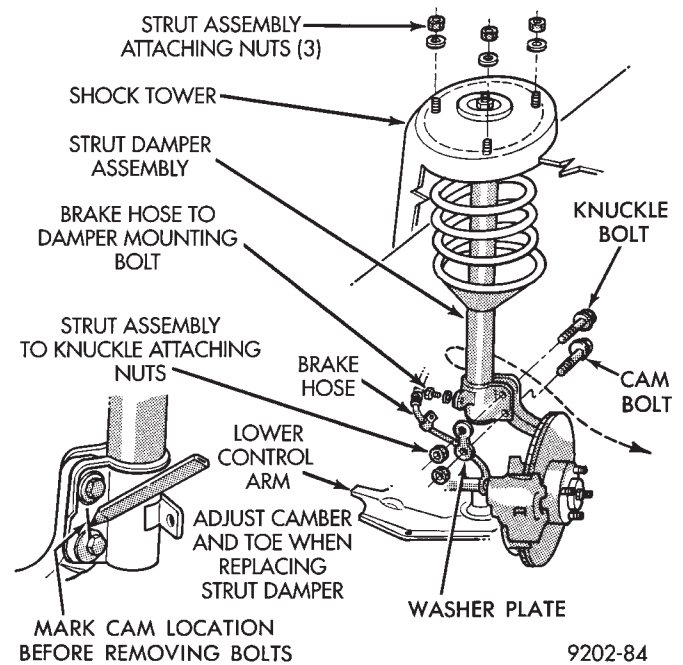
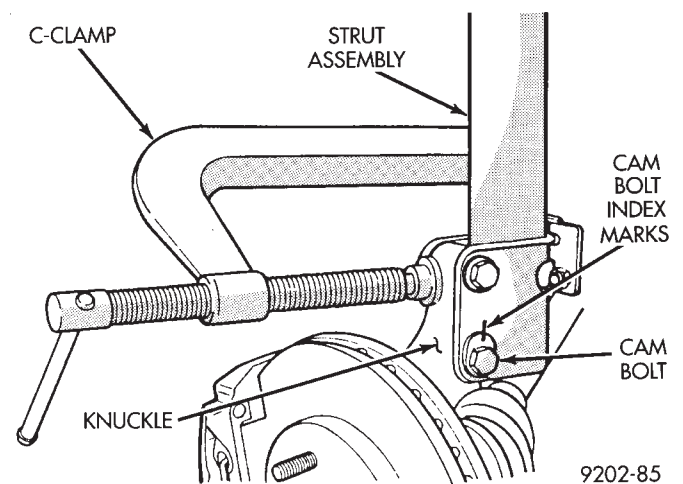

Fig. 1 Strut Damper Removal
Fig. 2 Strut Assembly Installation
- (4) Remove cam bolt, knuckle bolt and brake hose to damper bracket retaining bolt (Fig. 1).
- (5) Remove strut damper upper mount assembly to shock tower mounting nut and washer assemblies (Fig. 1)
- (1) Install strut assembly into shock tower. Install the 3 strut assembly to shock tower attaching nut and washer assemblies. Tighten nuts to 27 N•m (20 ft. lbs.) torque.
- (2) Position neck of steering knuckle into strut assembly. Install cam and knuckle bolts through strut assembly and steering knuckle. Install washer plate and nuts (Fig. 1) do not tighten nuts.
- (3) Attach brake hose retainer to damper, tighten screw to 13 N•m (10 ft. lbs.) torque.
- (4) Index cam bolt to original mark (Fig. 2).
- (5) Place a 4 inch (or larger) C clamp on the strut and knuckle (Fig. 2). Tighten the clamp just enough to eliminate any looseness between the knuckle and the strut, then check alignment of the index marks (Fig. 2). Holding the cam and knuckle bolt so they